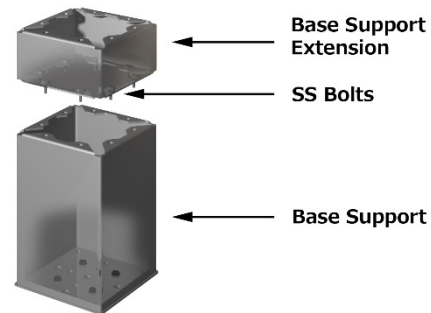

Figure 5
- **Taller Base Support:** Standard Base Support heights are 8", 10", 12", 14" 16" and 18". These heights will accommodate most conditions; however, we also offer custom built heights if necessary. In the event that the Base Supports must be raised after they are installed, we offer 3" and 4" extensions that can be added in the field as illustrated in Figure 5.